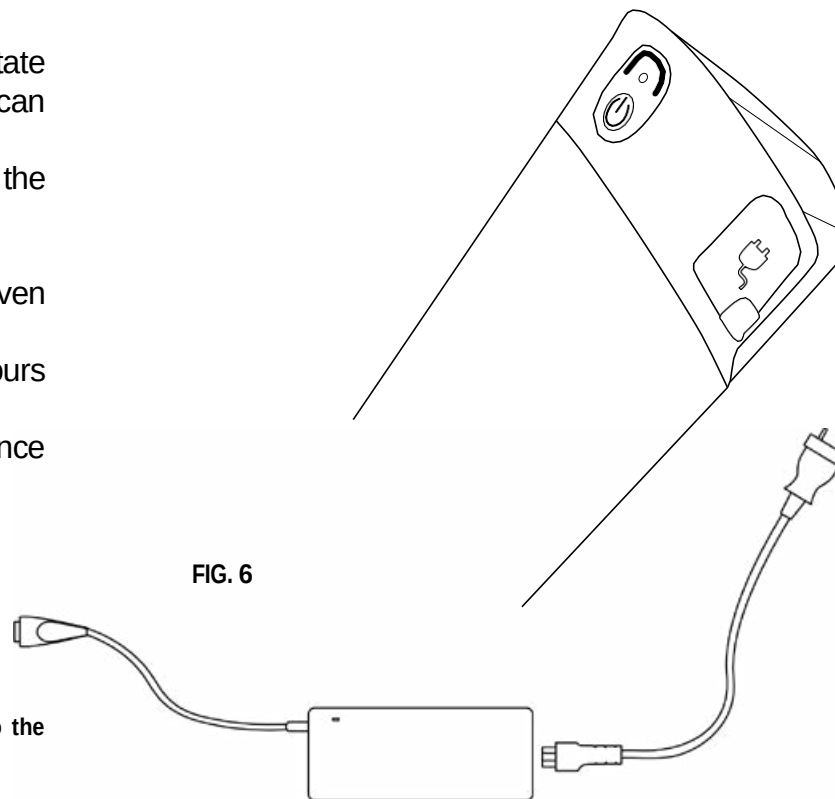

FIG. 6
- A. Connect the battery to a power outlet for a few seconds using the battery charger (Fig. 6);